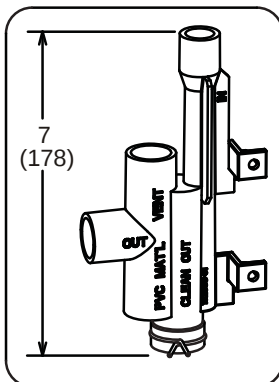

Figure 44. Trap / Drain Assembly using 1/2" PVC or 3/4" PVC, Cold End Header Box with 1/2" Drain Connection
3. Install the cap over the clean out opening at the base of the trap. Secure with clamp. See **Figure 43** (3/4" drain connection) or **Figure 44** (1/2" drain connection).
4. Install drain trap using appropriate PVC fittings, glue all joints. Glue the provided drain trap as shown in **Figure 43** or **Figure 44**. Route the condensate line to an open drain. Condensate line must maintain a 1/4" downward slope from the furnace to the drain.